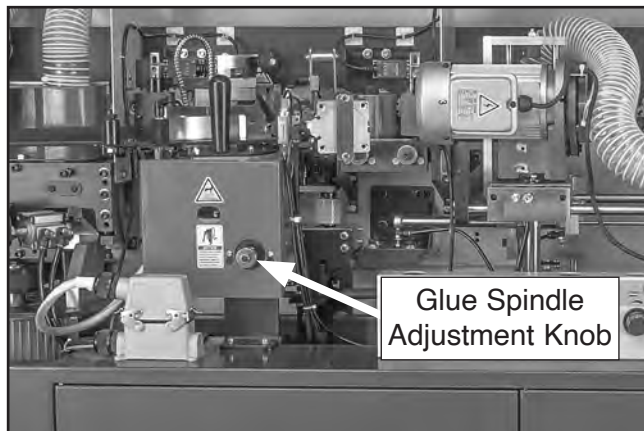

Figure 48. Location of glue spindle adjustment knob.
5. Ensure spindle is all the way forward by turning glue spindle adjustment knob *counter-clockwise* until it stops (see **Figure 48**).